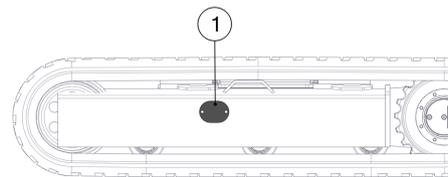

Figure 41 - Cover Plate Location
2. Remove the cover plate from the side frame to access the adjustment unit grease nipple (see Figure 41).